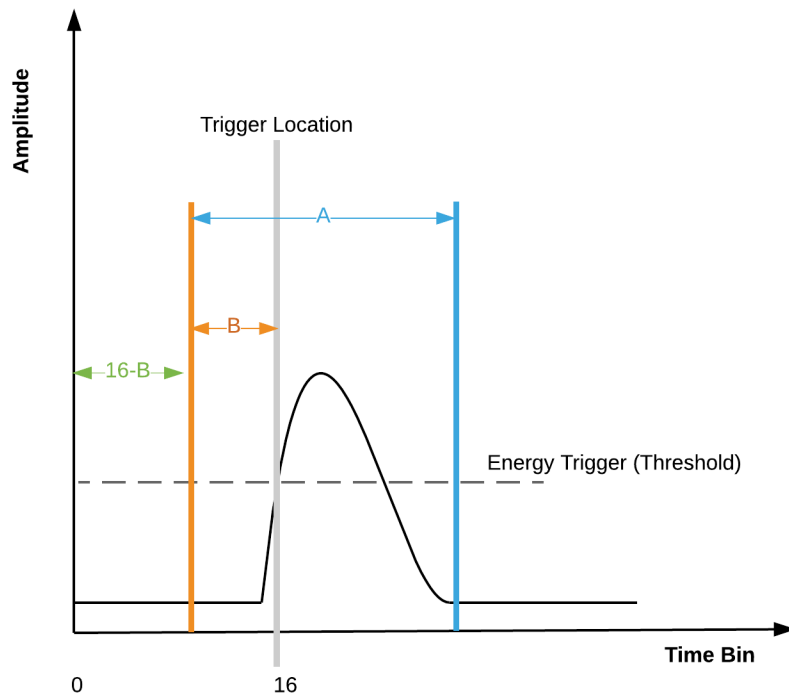

Fig. 4.37: Acquisition mode settings payload mapping.
- Baseline is computed as the average of samples located between [0 to 16-B] as shown in Fig. 4.37.